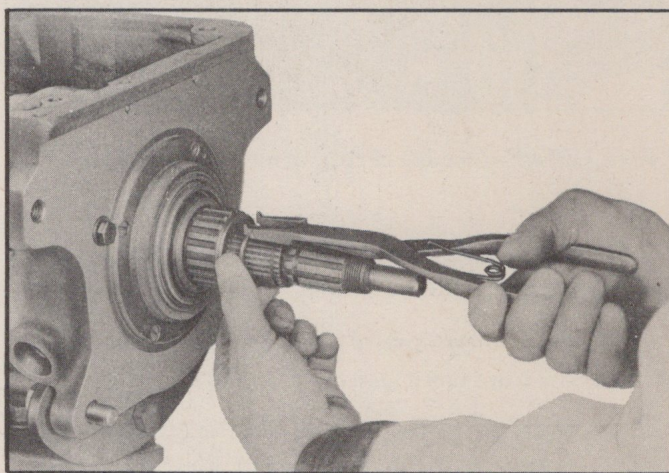

Fig. 124—Removing Front Drive Gear Snap Ring
1. Remove snap ring holding front drive gear assembly on front end of front planet carrier assembly using snap ring pliers (Fig. 124) and remove steel and bronze thrust washers from planet carrier.